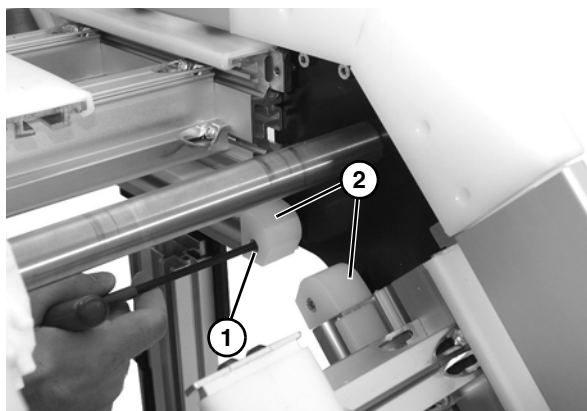

Figure 67
3. Remove socket cap screw (**Figure 67, item 1**) for each belt guide (**Figure 67, item 2**) on side of upper knuckle assembly. Repeat on opposite side.